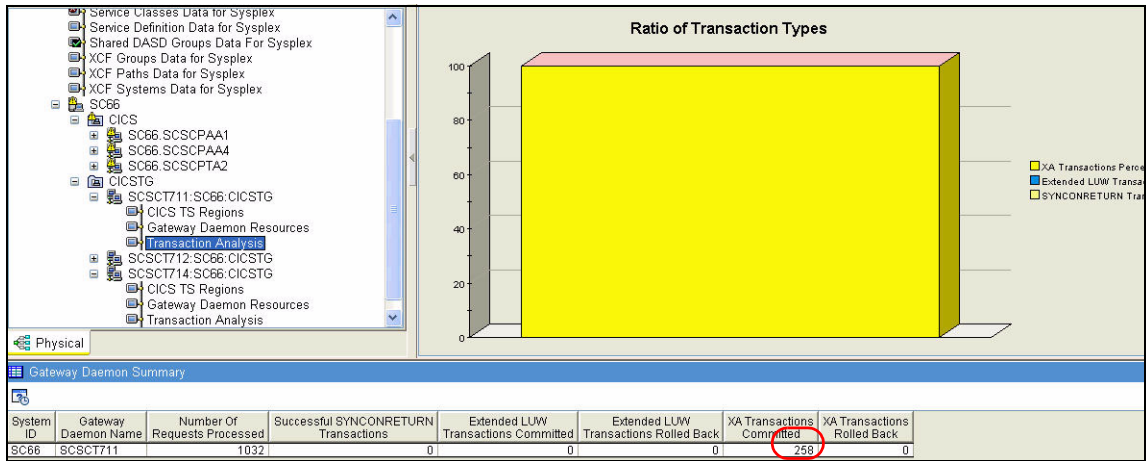
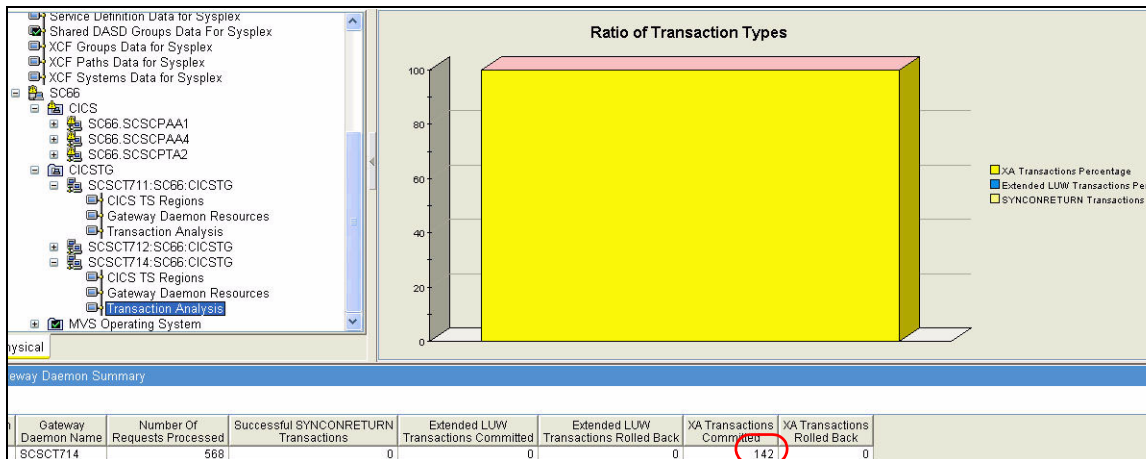

Figure 7-7 XA transactions committed on Gateway daemon SCSCT711
Figure 7-8 XA transactions committed on Gateway daemon SCSCT714
2. Additionally, the OMEGAMON XE Transaction Analysis perspective showed us that in our tests TCP/IP port sharing did not evenly balance the incoming transactions across the cloned Gateway daemons. In Figure 7-7 on page 248 and Figure 7-8 on page 248, we can see that: